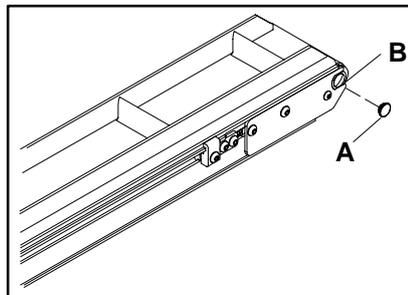

Figure 3
All non-driven positions have a plastic plug (A of Figure 3) installed into the ends of the pulley retaining sleeves (B). Use a small flat screwdriver to remove this plug.
When lubrication is finished, the grease adapter (C) can be left in place or can be replaced with the plastic plug (A of Figure 3).